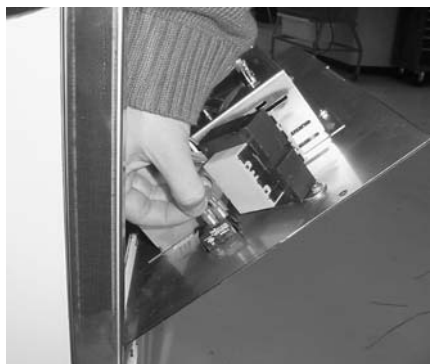

Figure 2-11
3. Label and remove wires from the switch. With test instrument check across the terminals of the switch with switch in the on position, and the circuit should be closed. In the off position, the circuit should be open. If the switch checks defective, replace by continuing with this procedure. Figure 2-11.